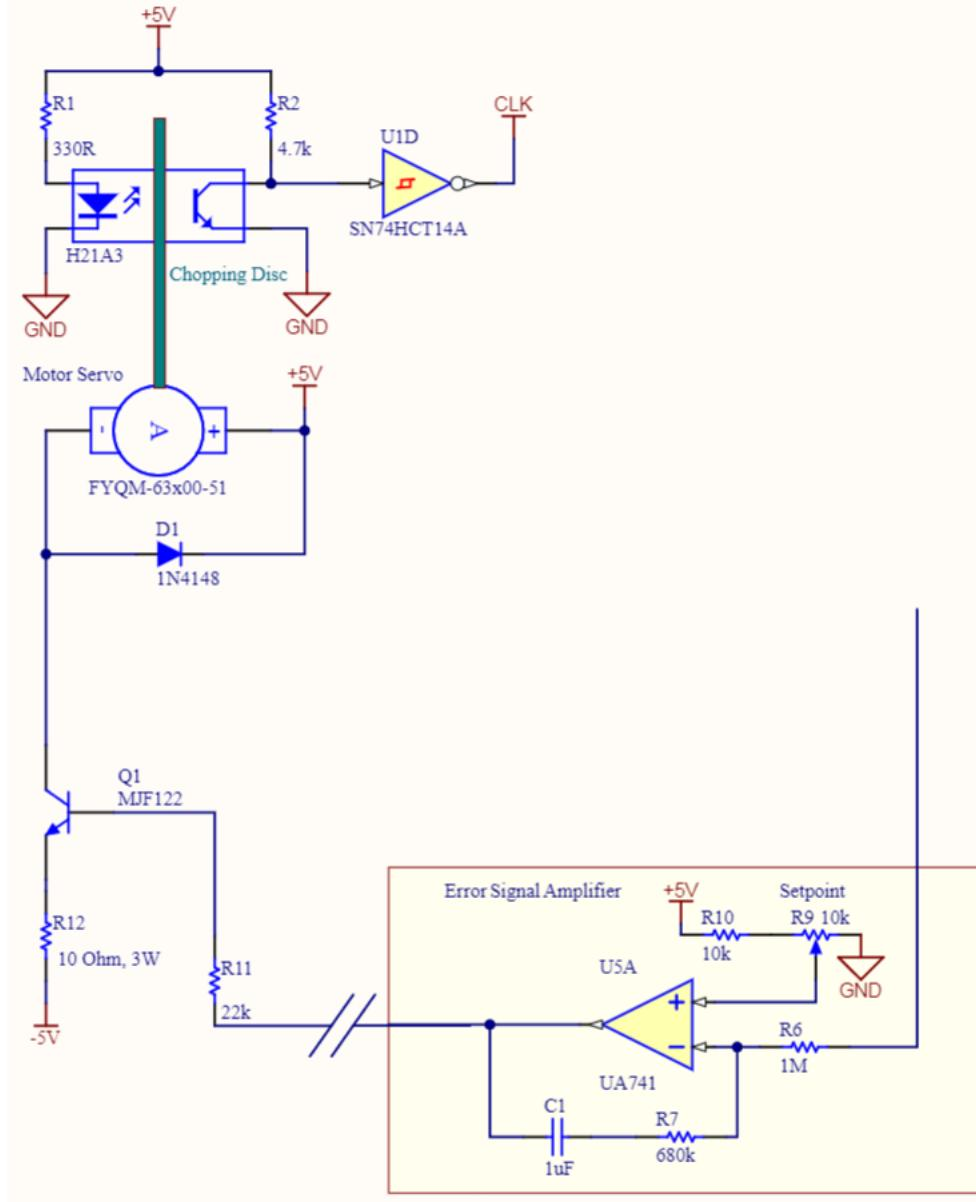
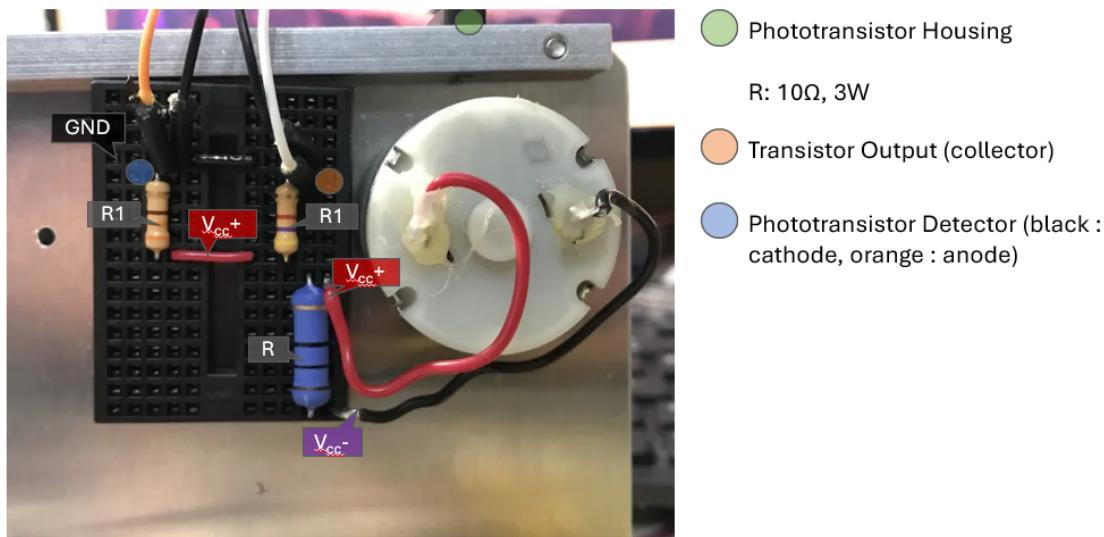

Figure 25: Functional circuit schematic of motor sensor and driver (error signal amplifier and motor itself)
Figure 30: Motor sensor setup - note resistor on right is labeled wrong, and should be R2 instead of R1
If we have V_{in} as the signal the DAC outputs, from Figure 25, we decide that the current flows from V_{in} to V_{out} , so we have current
- I set up the motor sensor circuit on the breadboard next to the motor as seen in Figure 30, following the schematic in Figure 25.
- I connected 5 V and -5 V wires from the AD2 power supplies to the same columns the red and black wires of the motor were plugged into, and a 10Ω 3 W resistor in series between the two (seen in Figure 30)